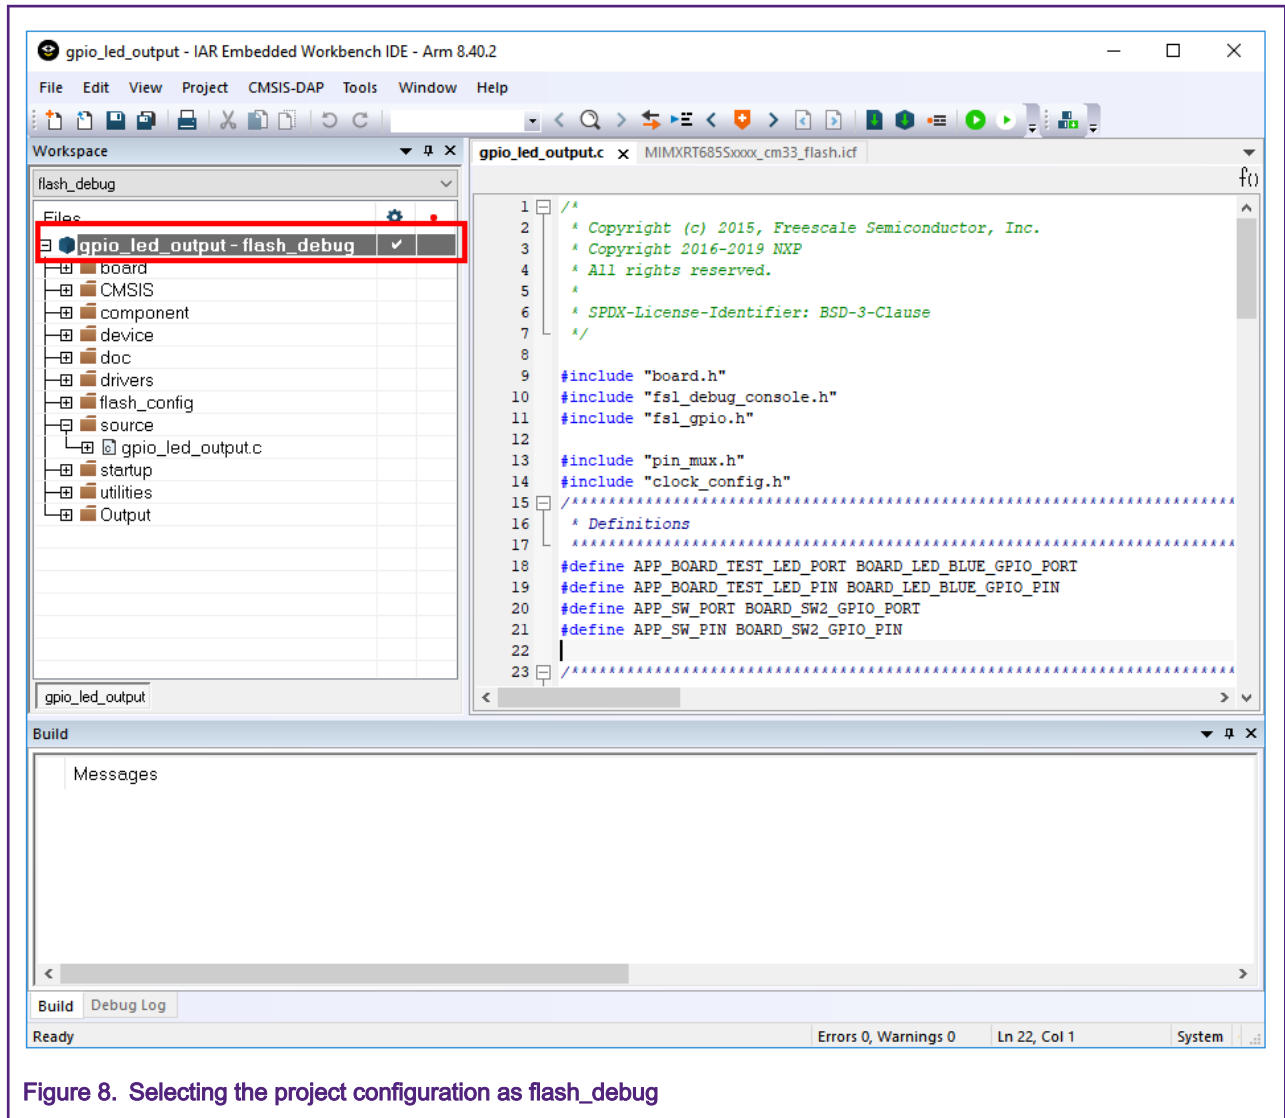

Figure 8. Selecting the project configuration as flash_debug
1. Open the `\SDK_2.7.0_EVK-MIMXRT685\boards\evkmimxrt685\driver_examples\gpio\led_output` example and select the project configuration as `flash_debug`. The settings are as shown in Figure 8.